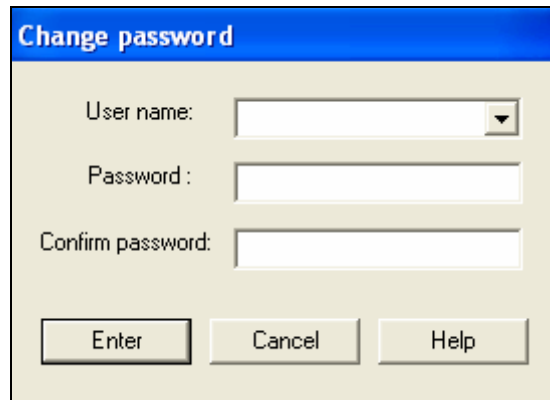

Figure 9: APS Change Password Screen
2. The APS Change Password screen will appear. Enter the User name and new Password (twice for confirmation) and then click the Enter button. Figure 9 shows the APS Change Password screen.